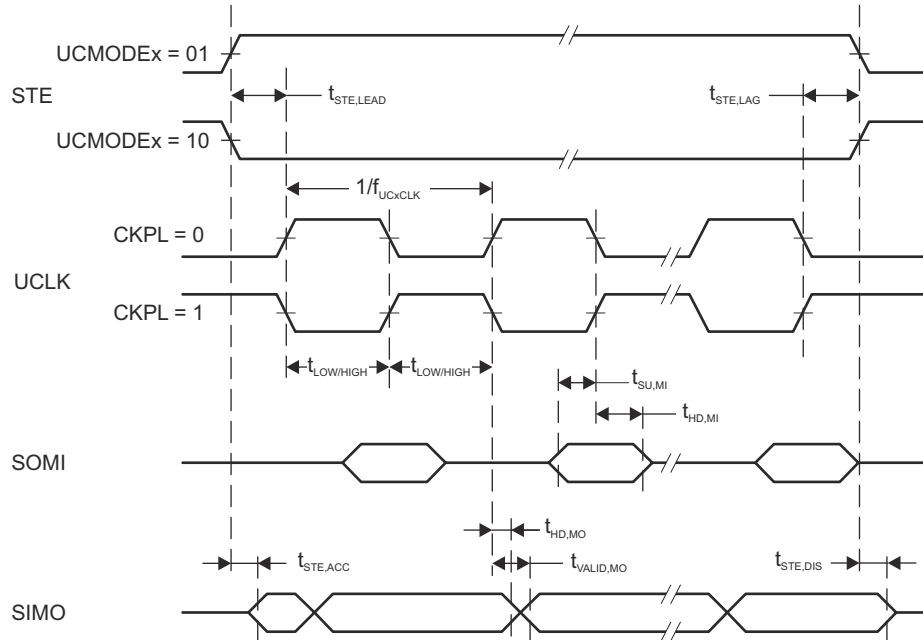
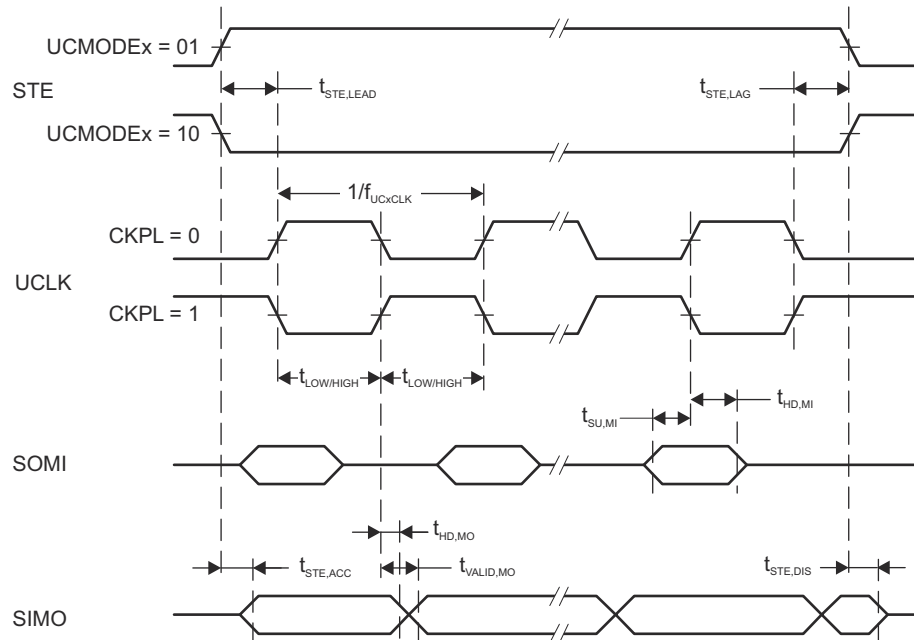

Figure 8-13. SPI Master Mode, CKPH = 0
Figure 8-14. SPI Master Mode, CKPH = 1
- (1) f_{UCxCLK} = 1/2t_{LO/HI} with t_{LO/HI} = max(t_{VALID,MO}(eUSCI) + t_{SU,SI}(Slave), t_{SU,MI}(eUSCI) + t_{VALID,SO}(Slave)). For the slave parameters t_{SU,SI}(Slave) and t_{VALID,SO}(Slave), see the SPI parameters of the attached slave.
- (2) Specifies the time to drive the next valid data to the SIMO output after the output changing UCLK clock edge. See the timing diagrams in Figure 8-13 and Figure 8-14.
- (3) Specifies how long data on the SIMO output is valid after the output changing UCLK clock edge. Negative values indicate that the data on the SIMO output can become invalid before the output changing clock edge observed on UCLK. Refer to the timing diagrams in Figure 8-13 and Figure 8-14.